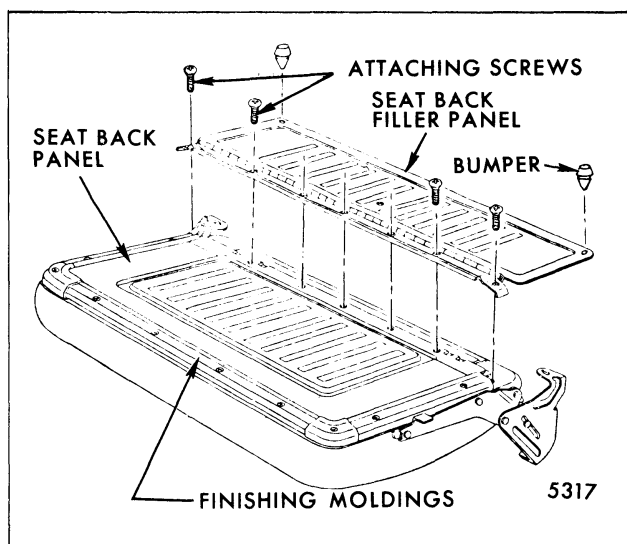

Fig. 9-67-Folding Rear Seat Back Filler Panel
1. With rear seat back in load floor position remove attaching screws at front end of filler panel and remove from body (Fig. 9-67).